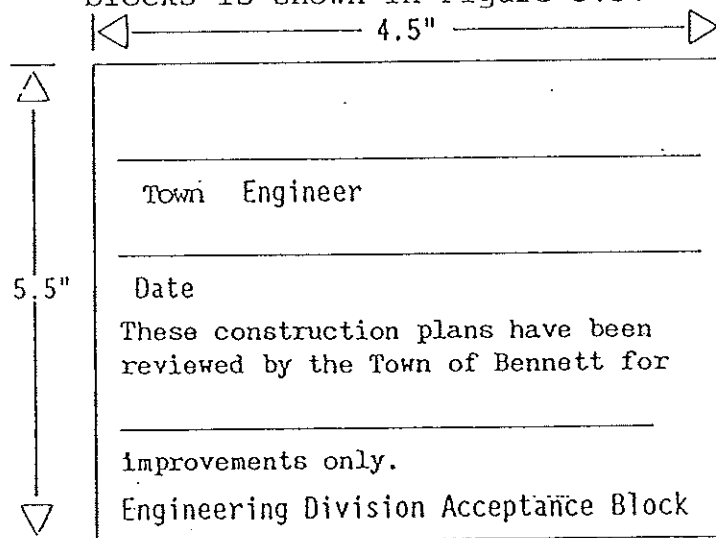

Figure 3.3
3.8.3 An example of these additional acceptance blocks is shown in Figure 3.3.